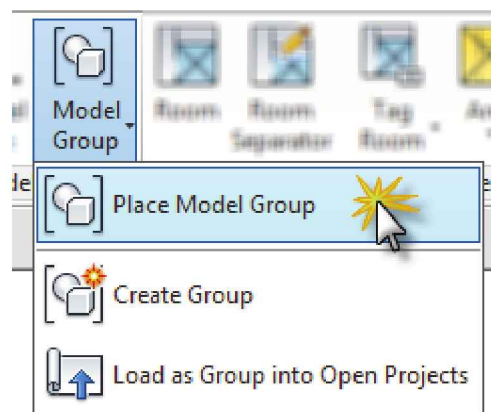

FIGURE 11-1.12 Place Model Group tool
36. On the *Ribbon*, select **Architecture** → **Model** → **Model Group** → **Place Model Group** (Figure 11-1.12).